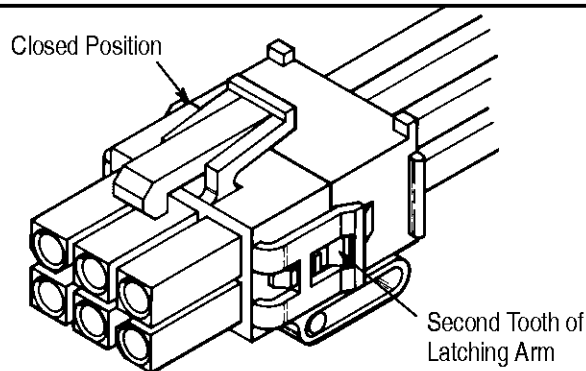

Figure 4
4. After all required contacts and keying plugs have been inserted into the housing, the wire end of the connector must be closed. To close the wire end of the connector housing, grasp the wire end and push forward until the second tooth of each latching arm engages as shown in Figure 4.
4. After keying plugs have been inserted into the housing, the wire end of the connector must be closed. To close the wire end of the connector housing, grasp the wire end and push forward until the second tooth of each latching arm engages as shown in Figure 4.